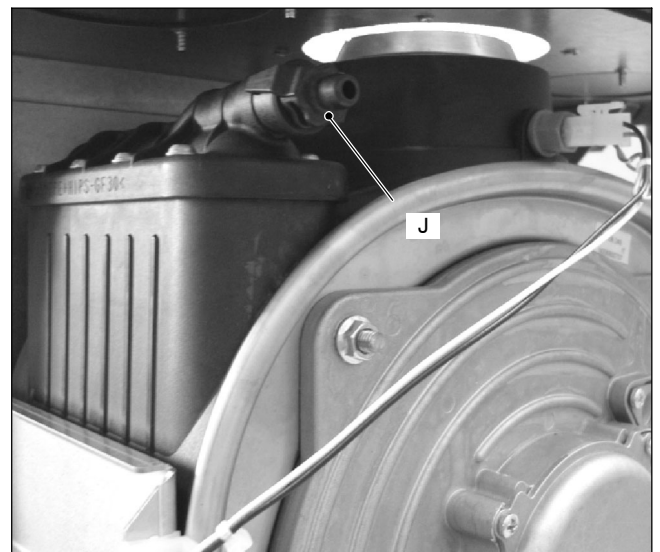

Fig. 2.8
- 4 To help the draining of the primary circuit loose the condensing heat exchanger air purger valve *J* (Fig. 2.8).